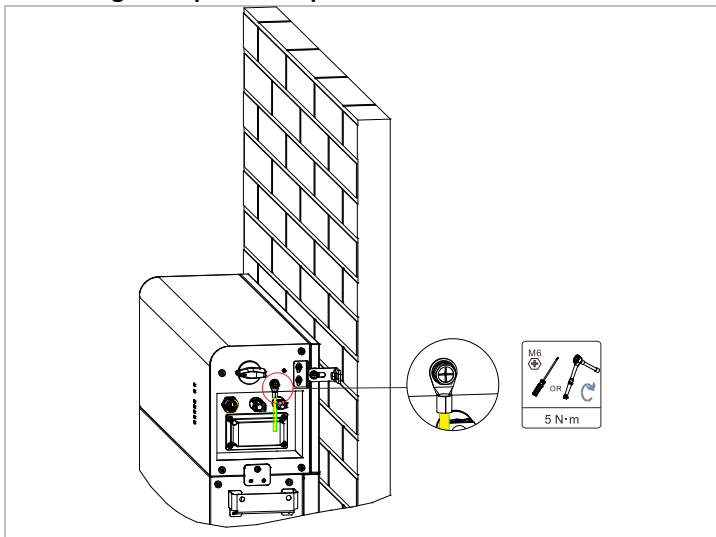

Figure 4-9 Installation diagram of the protection ground cable
Step 2: As shown in Figure 4-9, install a protection ground cable at the ground terminal on the right of the BDU and connect it to the external ground protection point.